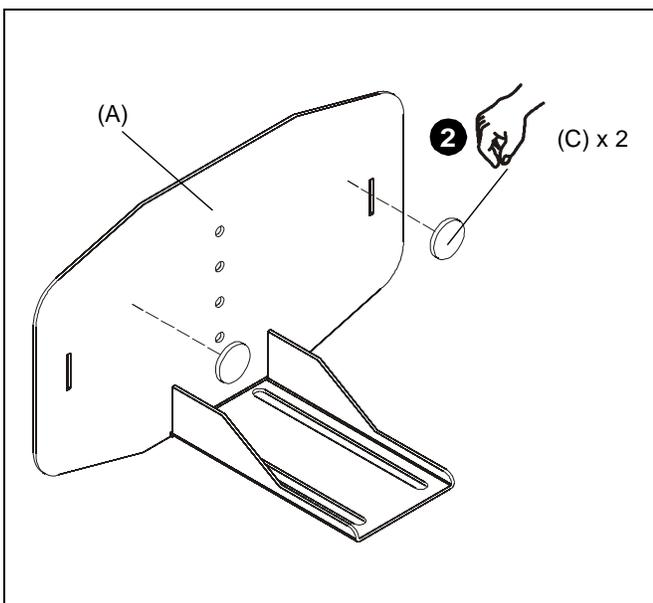

Figure 2
- Install two felt pads (C) on bottom of shelf (A) to prevent scratches on top of display panels when shelf is lowered. (See Figure 2)